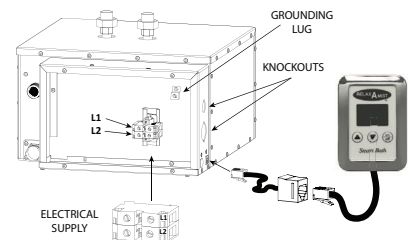

Fig. 6
- b) Connect the two copper wires from the power supply, one to each of the red and black Relax-A-Mist® wires inside the electrical box. See **Fig. 6**.